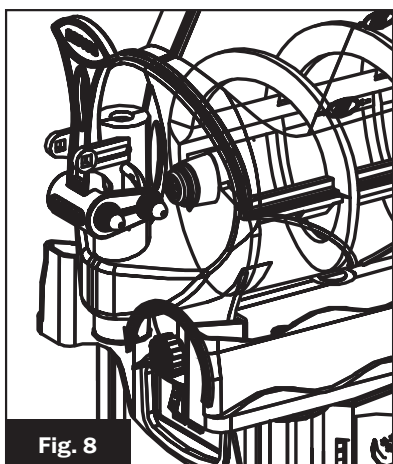

Fig. 8
1. Remove the (2) Front Fixing Knobs by unscrewing them counter-clockwise. (Fig. 8)